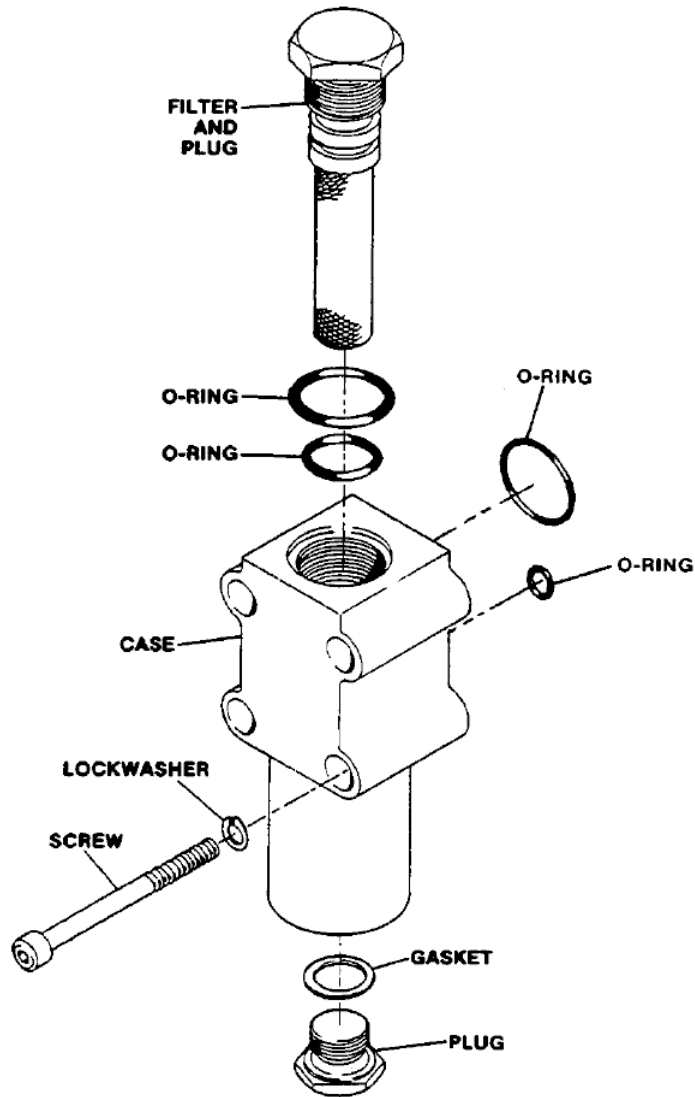

Figure 5-48. Oil Filter
24. Assemble oil filter after cleaning it and mount it in position on vane servo side plate (Figure 5-48).